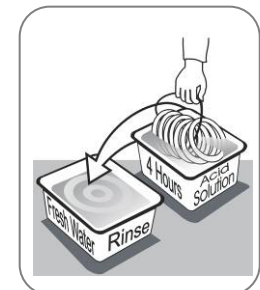

Figure 6
7. Thoroughly wash the discs with fresh water and then reassemble each set of discs on its spine (Figure 6).